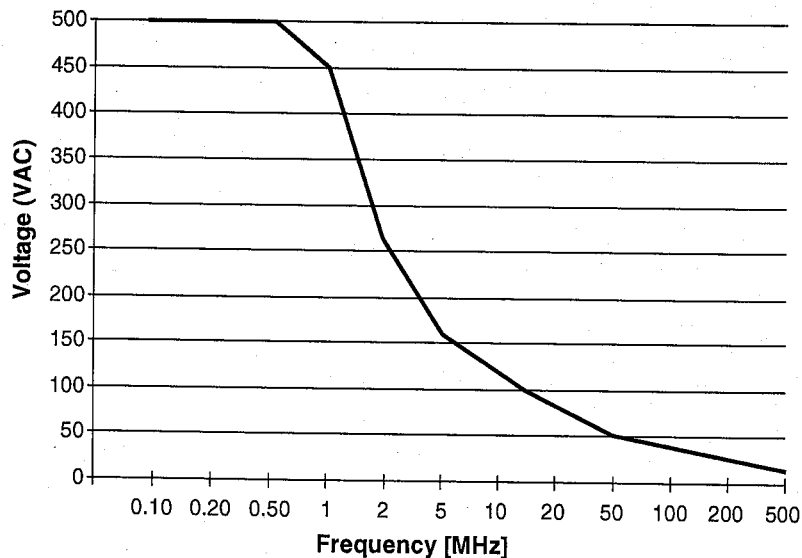

Figure 1
- Figure 1 shows maximum input voltage. Do not apply excessive voltage.